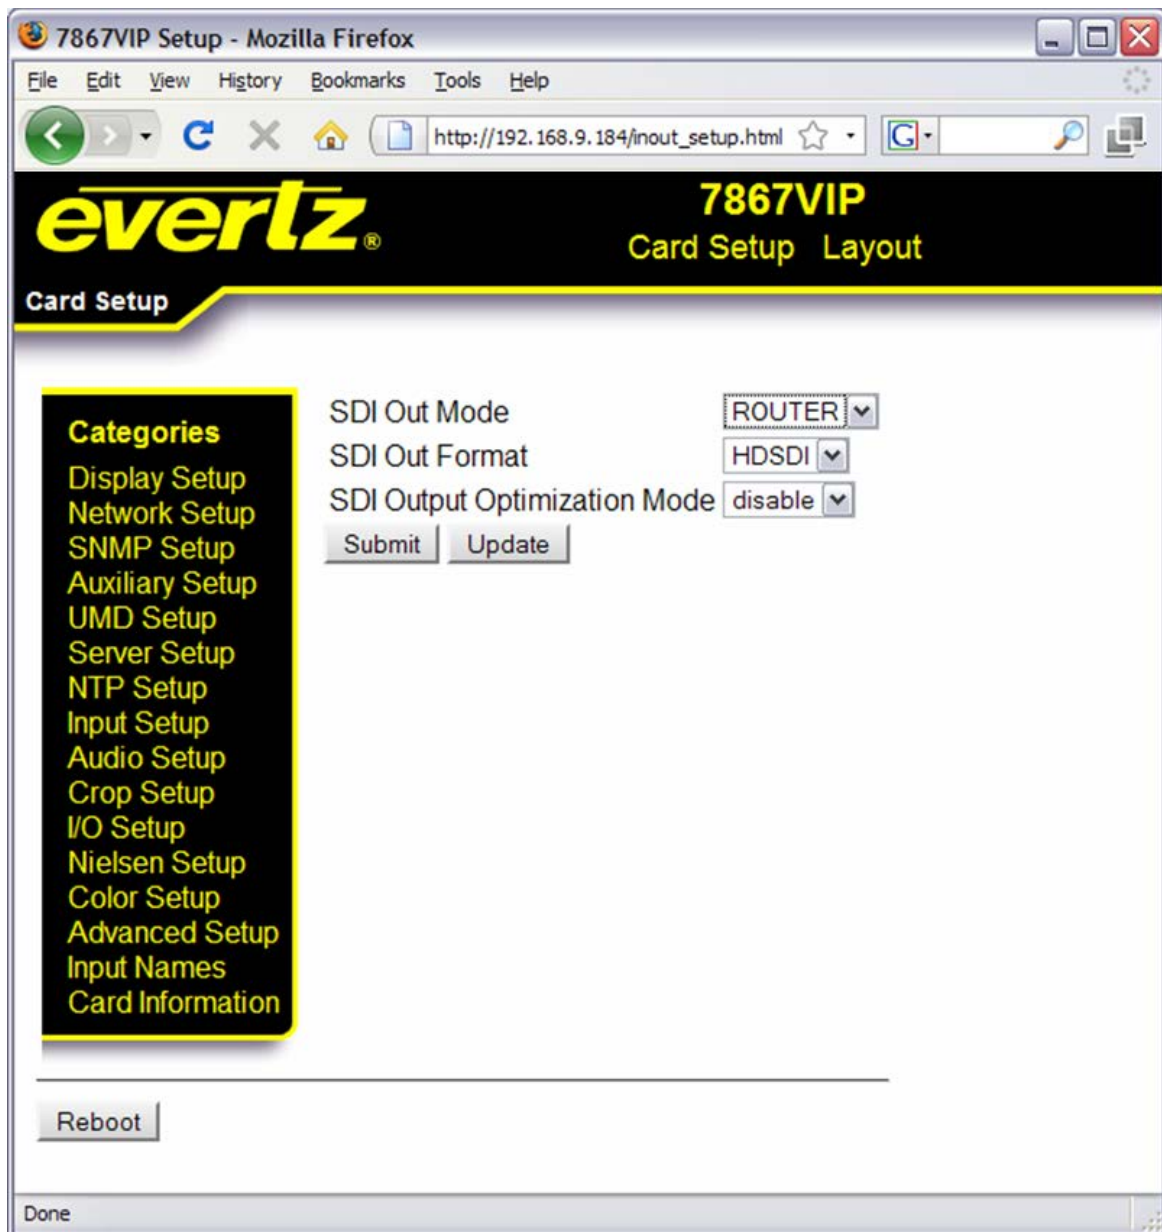

Figure 8-1: Card Setup Layout for Cherry Pick Mode
2. Open a DOS window. This can be accomplished by using the run command under the start button, type "cmd". See Figure 8-1 for more information.